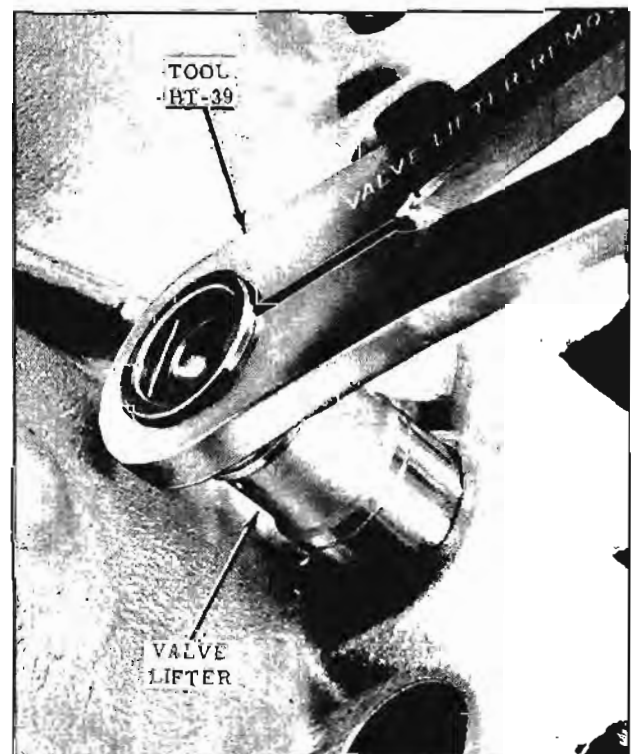

Fig. 8-111 Removing Valve Lifter
4. Remove lifters. Use of Tool BT-39 will aid in removal of varnished lifters. (Fig. 8-111)